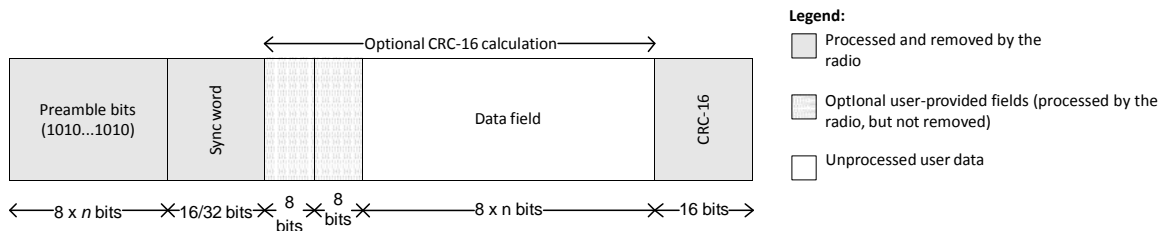

Figure 13: Packet Format
**HC210C-R** supports 2-(G)FSK and 4-FSK modulation. When selecting 4-FSK, the preamble and sync word to be received needs to be 2-FSK (see Figure 13).